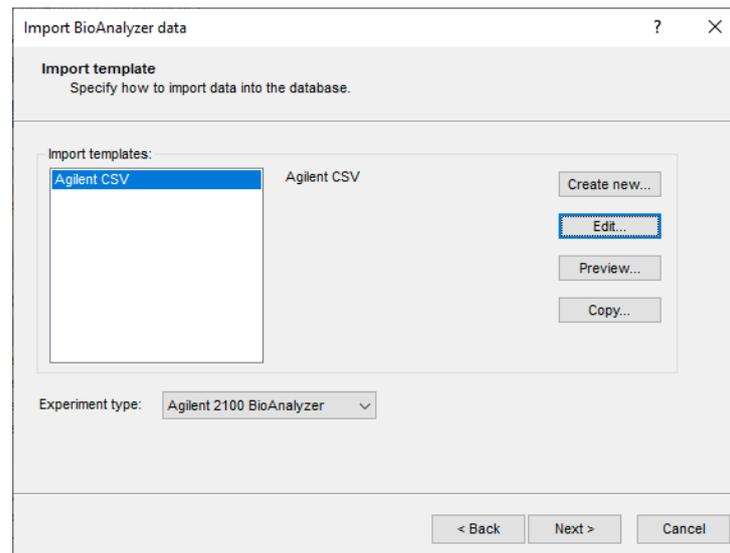

Figure 11: The *Import template Bioanalyzer data* wizard page.
12. Make sure the **Agilent CSV** import template is highlighted and the **Agilent 2100 Bioanalyzer** experiment is selected in the *Import template Bioanalyzer data* wizard page (see Figure 11). Press **<Next>**.
38. Make sure the **Agilent CSV** import template is highlighted and the **Agilent 2100 Bioanalyzer** experiment is selected in the *Import template Bioanalyzer data* wizard page (see Figure 11). Press <**Next**>.